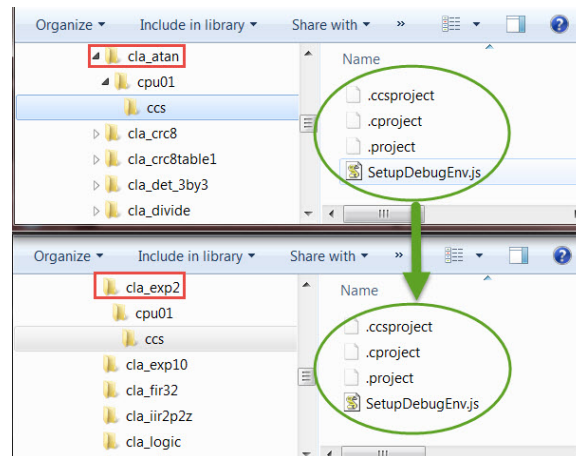

Figure 4.4: Creating a new project from existing examples
- Rename all files `atan*.*` to `exp2*.*`. (Notice the naming convention. All files have the test folder name as a prefix, see Fig. 4.4 below)